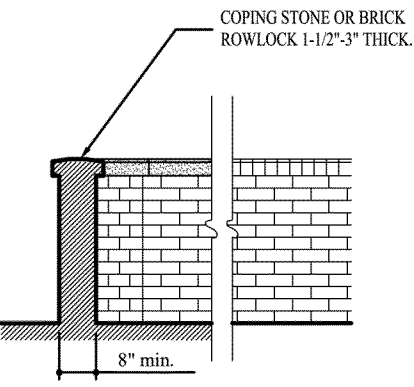

Figure 32
- » Brick walls shall be capped with coping stone or shaped brick. The cap shall overhang the wall between 1/2" and 1-1/2" to provide an appropriate drip edge. See Figure 32.
- » Dooryard, garden, or retaining walls of brick or stone shall be no less than 8" wide and capped in a rowlock course of brick, cut brick, or dressed coping stone 1-1/2" to 3" thick. See Figure 32. Dooryard or garden walls are encouraged where sidewalk grade is 4' or more lower than the stoop or porch walking surface.